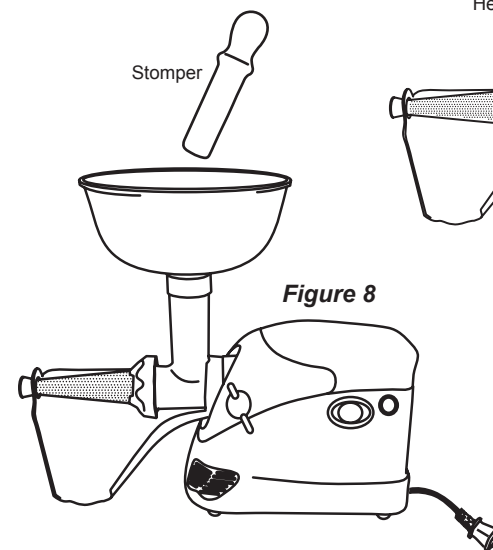

Figure 8
14. **ALWAYS** use the **Stomper** to push food into the **Head/Hopper**, **NEVER** use hands or fingers (figure 8).